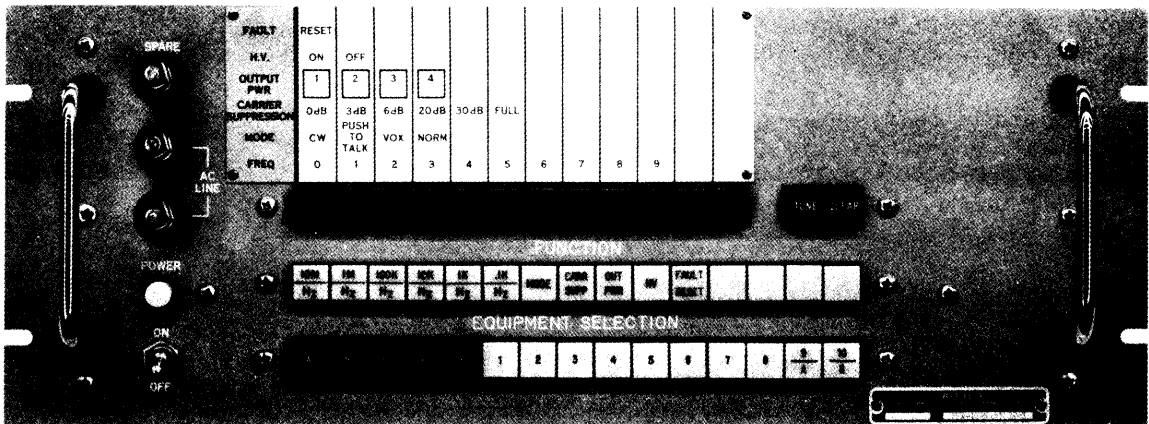

Figure 3-1. Front Panel Controls of Electronic Programmer C-8335/URT
Blank spaces are provided opposite the words "OUTPUT POWER" on a printed chart directly above a row of blank buttons on the programmer (figure 3-1); these spaces are to be filled in with the four wattage adjustments for the transmitter output power. These stepped power adjustments are made in the transmitter at the time of its installation.
(1) Transmission Modes. The following transmission modes are controlled at the console.
(2) Multiple Transmitter Control. The pushbutton control unit can be used to separately tune up to thirty transmitters by utilizing the EQUIPMENT SELECTION row of pushbuttons on Electronic Signal Command Programmer C-8335/URT. (See figure 3-1.) Pushbuttons, numbered A, B, C, D and E, and 1 through 6, afford a selection of five blocks (A through E) of transmitters with six transmitters (1 through 6) in each block.
a. DESCRIPTION OF CONTROLS. Table 3-1 lists controls, pushbuttons and readback indicators, including the function of each item. Reference is made to these items as they appear in figure 3-1, Front Panel Controls, COPC-2. On the C-8335/URT programming panel, yellow FUNCTION pushbuttons are used to select a transmitter control and the row of twelve blank blue pushbuttons, directly above, are used to position the selected control in accordance with the printed chart above the blank pushbuttons.